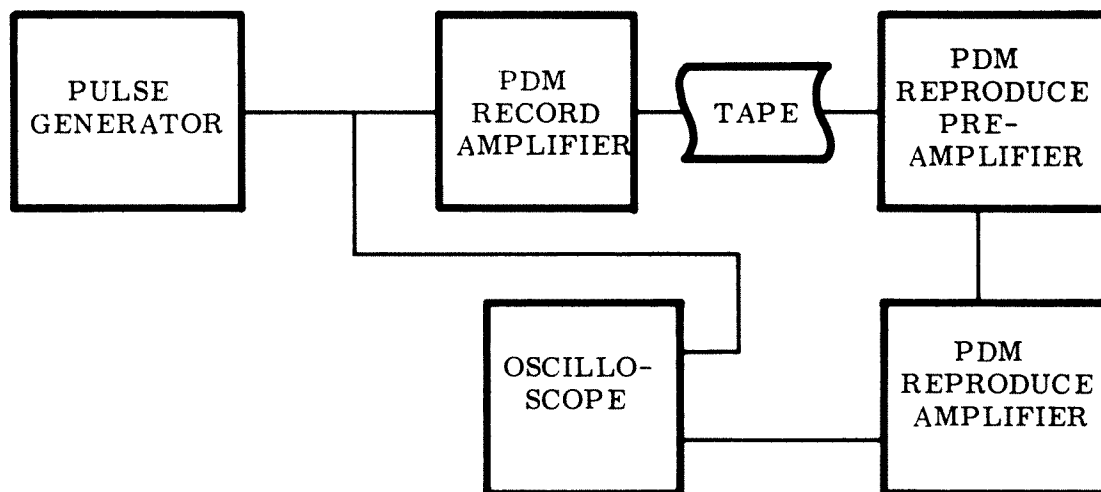

Figure 4-21. Test Set-up PDM Record Amplifier
- Step 13: Connect test equipment as shown in figure 4-21.